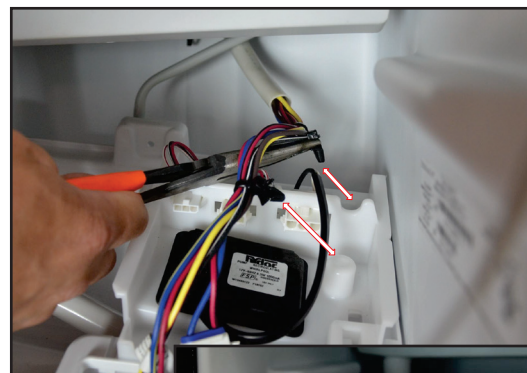

FIGURE 15
- Use a pair of pliers to remove christmas tree retainers. See *Figure 15*.